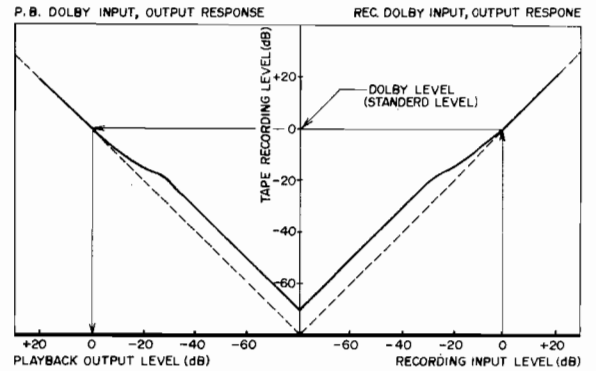

Fig. 47
In formula 3, Dolby recording circuit output signal e_0 is recorded at a 10 dB higher level in relation to a 30 dB lower input level than the Dolby level. (Refer to Fig. 47)
- 3) When input signal e in gradually becomes large, the D.C. voltage which was amplified at TR8 and rectified at D6 also becomes large. When this happens, TR5(FET) impedance gradually approaches zero, For this reason, e signal level is greatly decreased by FET operation. That is to say that with regards to signal over the Dolby level (Fig. 47), the signal supplied to the base of TR6 is greatly reduced and the situation develops wherein $e \gg me = e_2$. For this reason, formula 3 becomes:
Therefore, relative to the signal above the Dolby level, ratio of input and output becomes an equal 1:1. (Fig. 47)
- 1) At playback mode, the input signal passes TR1, then the low pass filter, TR2, TR3, and TR4 and appears at point (B) as the output signal. TR4 output signal passes the high pass filter and is amplified at TR6 and TR7. At this time, the signal which passes TR8 is rectified at D6 and supplied to TR5 (FET) gate. FET functions by means of this D.C. bias and the signal to TR6 is controlled.
- 2) Also TR7 output signal is changed by the characteristic of diodes D3 and D4 and is supplied to point (B) as e_2 in Fig. 47. This e_2 signal is added at point (b) as the reverse phase of signal e , and this signal is dolbyzied to become output signal e_0 . Expressed by a formula, this beocmes: